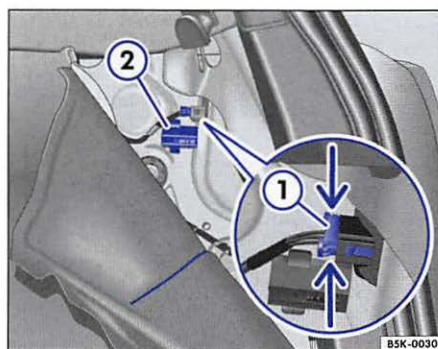

Fig. 174 To the side in the luggage compartment: Removing the taillight. ① Pulling off connector, ② Securing screw.
3. Reach into the opening of the side interior trim of the luggage compartment (slot $\Rightarrow$ fig. 174) and pull the trim forward.
4. Squeeze the release of the connector $\Rightarrow$ fig. 174 ① together in the direction of the arrows and pull the connector off.
5. Unscrew the securing screw by hand $\Rightarrow$ fig. 174 ②.
12. Hold the taillight with one hand in the installation position and with the other hand, tighten the securing screw $\Rightarrow$ fig. 174 ②.
14. Attach the connector $\Rightarrow$ fig. 174 ① to the bulb holder.